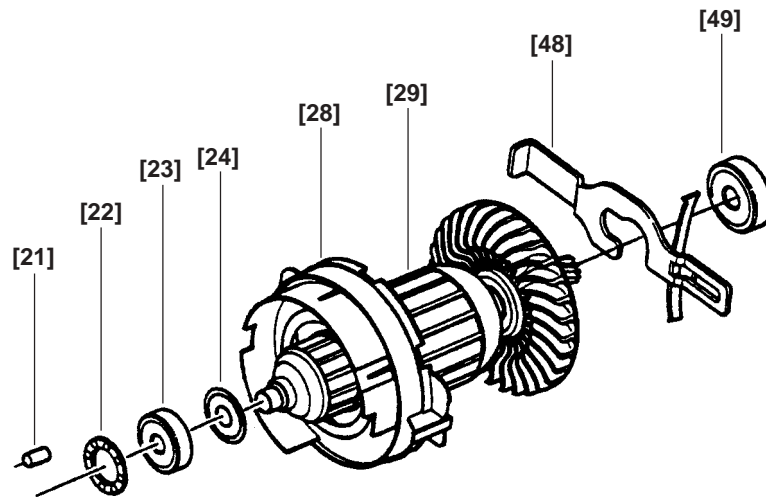

Fig. 5
(5) Removing the Armature [29] (See Fig. 5.)